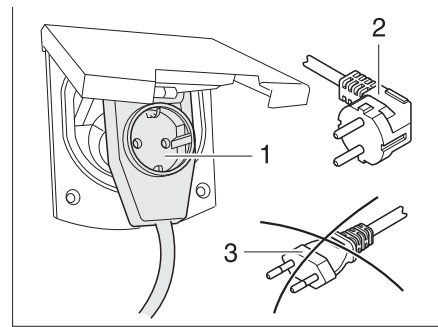

Fig. 288 Connecting an angled connector with socket
▶ When using a CEE 17 angled connector with rear socket (Fig. 288,1) only use a rubberised and sealed IP 44 socket with earth contact (Fig. 288,2). Do not use sockets without earth contact (Fig. 288,3). Danger of electrocution!